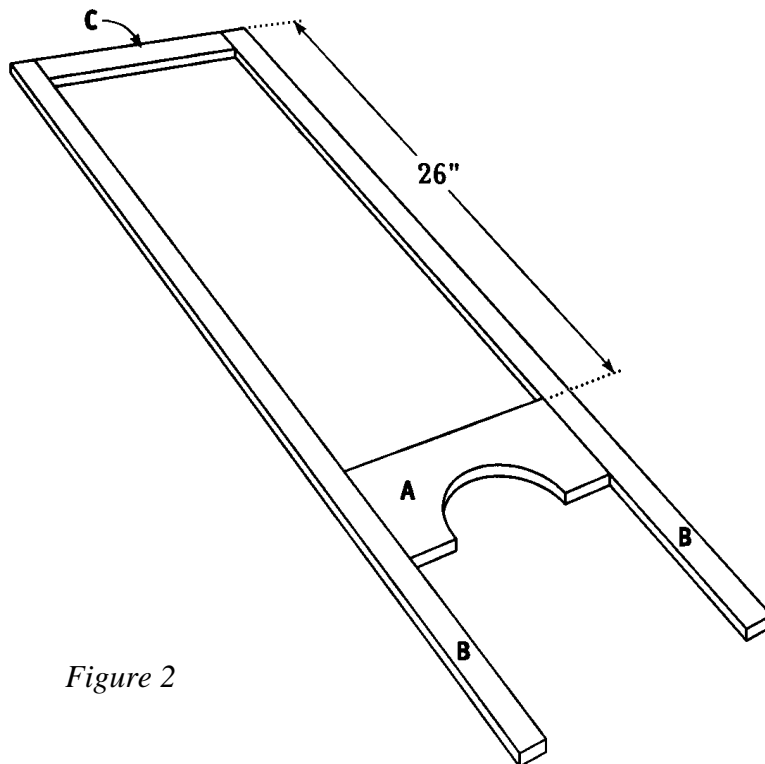

Figure 2
3. Cut four Vertical Sides (B) from 1 x 2 pine, each measuring 43 inches.
4. Cut two Upper Sides (C) from 1 x 2 pine, each measuring 11-1/4 inches.
5. Place two Vertical Sides (B) on a level surface, parallel to each other and 11-1/4 inches apart. **Note:** because of the relatively thin wood used for this project, and the depth that the nail must penetrate, we strongly suggest that you pre-drill all of your nail holes to avoid splitting the
wood. Place one Upper Side (C) between the ends of the two Vertical Sides (B), as shown in *Figure 2*. Apply glue to the meeting surfaces, and nail through the Vertical Sides (B) into the ends of the Upper Side (C) using two 2-1/2" nails on each joint.
6. Fit one Lower Side (A) between the same two Vertical Sides (B), 26 inches below the Upper Side (C), as shown in *Figure 2*. Apply glue to the meeting surfaces, and nail through the Vertical Sides (B) into the ends of the Lower Side (A) using two 2-1/2" nails on each joint.
7. Repeat Steps 5 and 6 to construct another cage side using the remaining Lower Side (A), two Vertical Sides (B) and Upper Side (C).